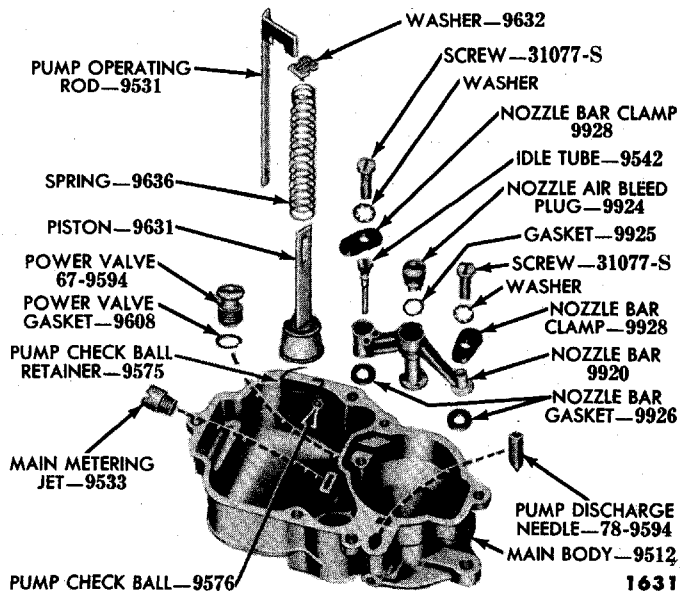

Fig. 44—6-Cylinder Carburetor Main Body, Disassembled
(2) **ASSEMBLE MAIN BODY.** Place a new gasket on the power valve and install the valve in the main body (fig. 44). Install the correct size main jet. Table 3 shows the available main jets. Place the pump check ball in the forward hole in the pump bore. Install the
check ball retainer in the pump bore, making sure the bent end of the retainer is over the check ball. Install the pump discharge needle and retainer. Install the idle tube (fig. 44) in the nozzle bar. Place a new gasket on each nozzle seat in the main body. Position the nozzle bar and install the nozzle bar clamps, lock washers, and screws. Install the air bleed plug and gasket. Install the pump piston assembly.